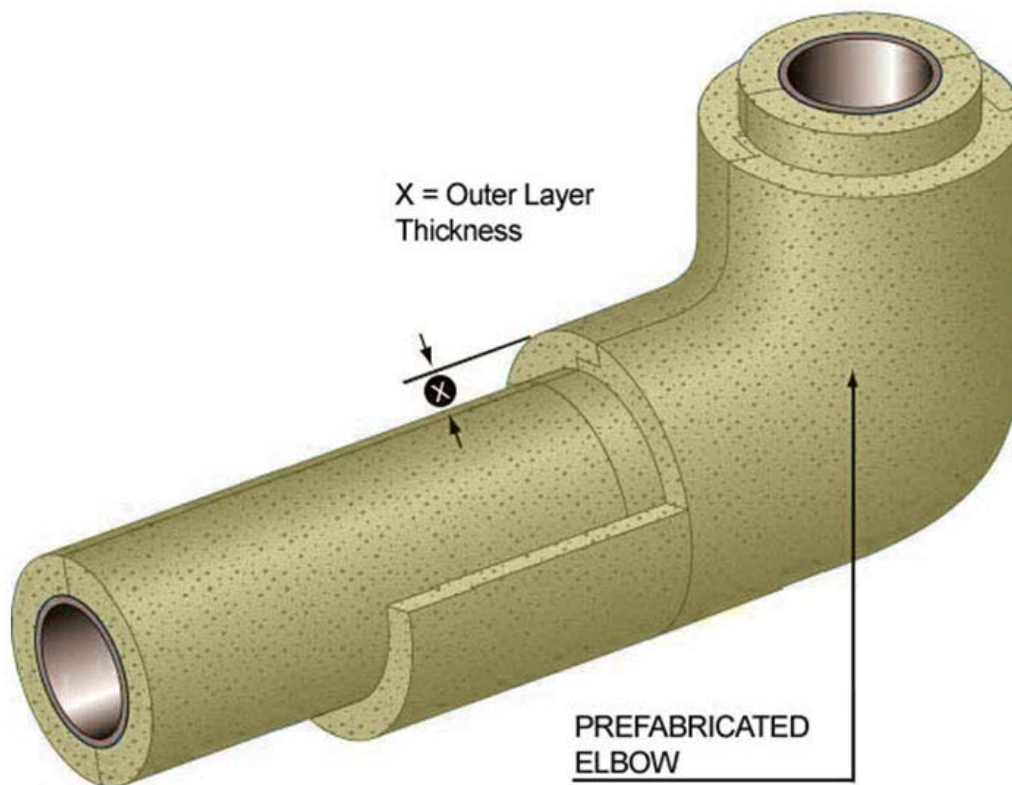

Figure 4
- 4.1.4 If a double layer system is required, all fittings shall be double layered. Fittings may be cut to full thickness in lieu of double layered if they are fabricated with shi lap butt ends. Depth of the shi lap shall be cut to the thickness of the inner layer to allow the outer layer to overlap creating a staggered joint. Refer to Figure 4 in Appendix B.